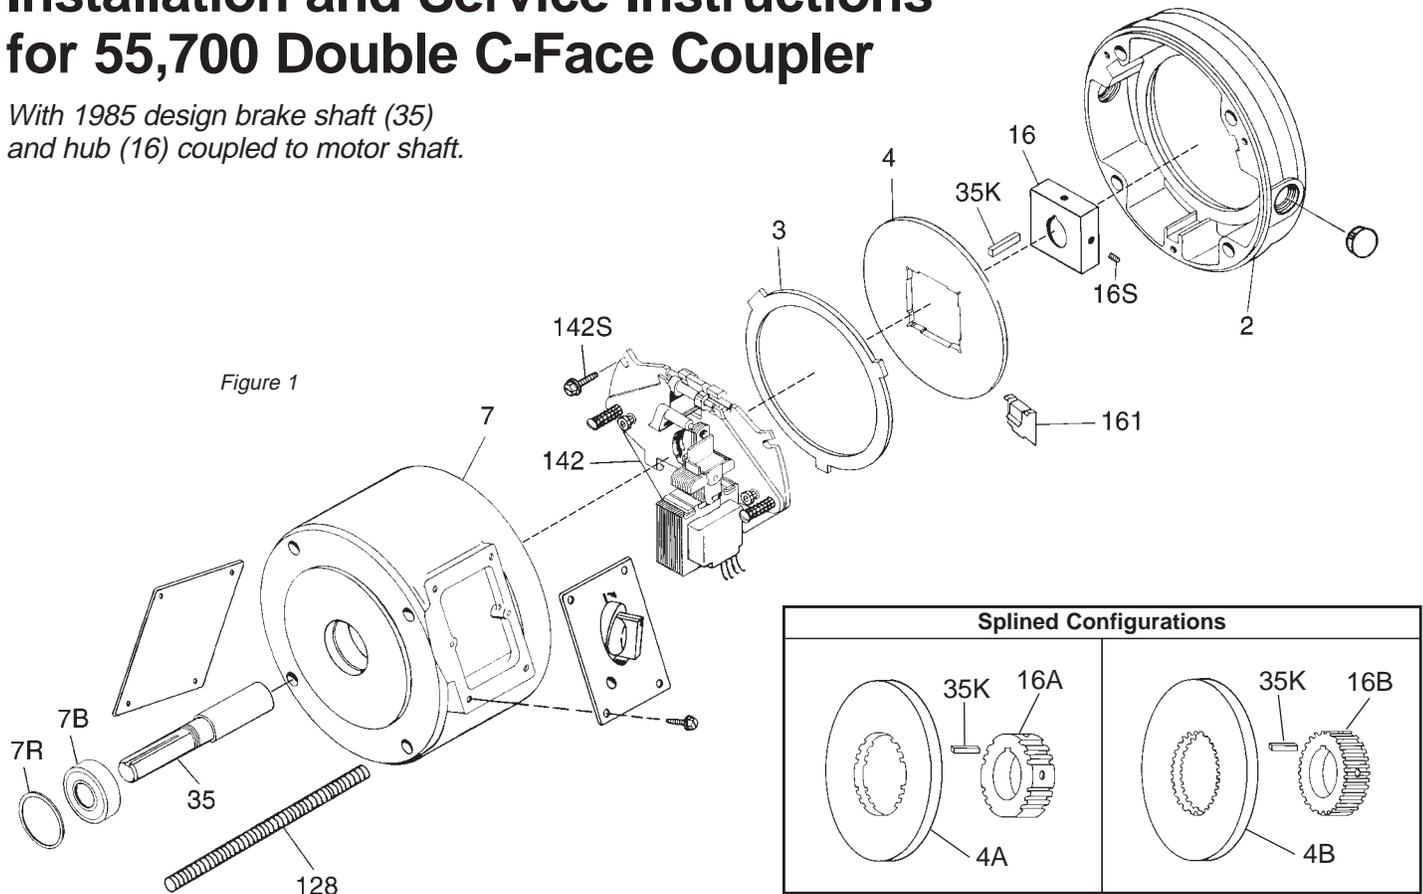

Figure 1
**Note:** If reducer or motor is to be ceiling or horizontally wall mounted, entire brake may have to be rotated 180° or 90° so it will be positioned with plunger (29) above frame (79) at final assembly, for preferred positioning.
7. **Remove access covers (104)** and slide housing and shaft assembly onto mounting studs, rotating shaft (35) to engage key (35K) into shaft keyway. Be sure housing is assembled with access windows aligned in same relative position to support plate shown in Figure 1.
(See Figures 1 and 7, also Table 2)
(See Figures 1 and 7)
All parts shown in Figures 1 and 7 are available as kits, assemblies, or components. Consult Parts List, P/N 8-078-915-07 (Sheet 314) for ordering information.